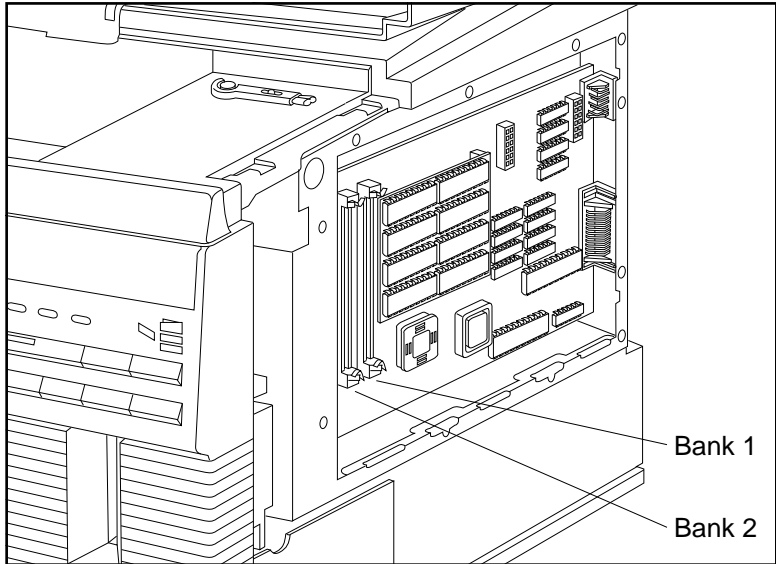

Fig. 9.12 Locate the Controller Board RAM Banks
9. Locate the RAM banks on the controller board (fig. 9.12).